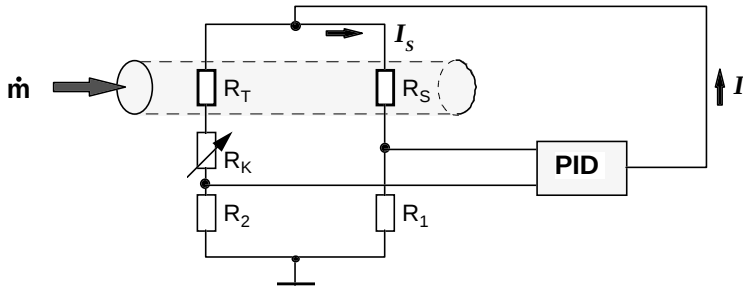

Fig.3 Operating principle of the thermal flow sensor
In a bridge circuit, the temperature difference between the heating resistor (R_H) and a temperature sensor (R_T) placed in the flowing medium upstream of it is kept constant (Fig.3). The necessary bridge current (I) is a measure of the velocity of the flowing gas.